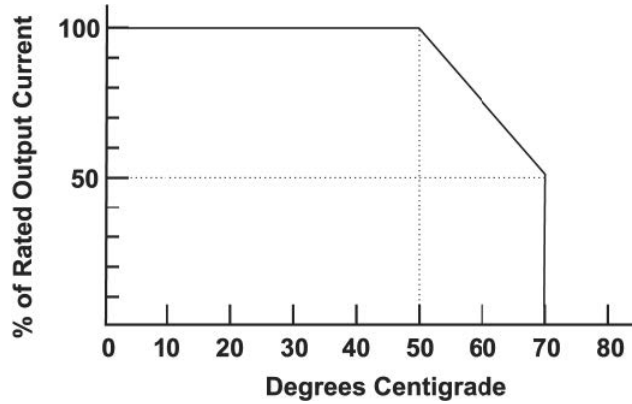

Figure 5 – Module Dimensions
11.4 Output Power - The maximum output power for the TPCM24 modules is 1,200 watts. The maximum output power of a module may be drawn at up to 50°C ambient temperature. Above 50°C the output current must be derated by 2.5%/°C. See Figure 5 below. The absolute maximum operating temperature is 70°C, at which the output current must be derated by 50%.